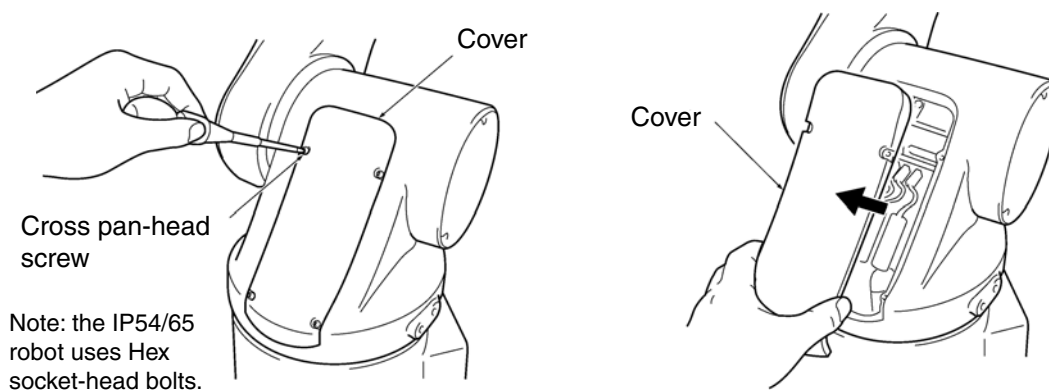

Figure 6-2. Removing Cover to Replace Encoder Batteries
3. Remove the cover from the robot unit. See Figure 6-2.
For the IP54/65 robot, the procedure to replace the encoder battery is the same as the standard robot, except the cover uses hex socket-head bolts instead of screws. See Figure 6-2 on page 62. Tightening torque: Hex socket bolt: 2.0 Nm.